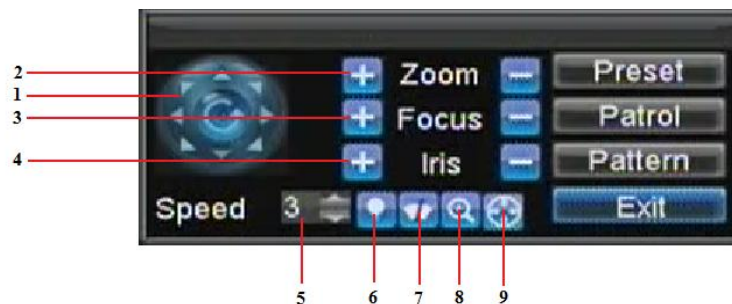

Figure 3. PTZ Control Interface
Before setting presets, patrols and patterns, it's important to understand some of the features of the PTZ control panel, shown in Figure 3.
1. Enter the PTZ Control interface, shown in Figure 3 by clicking PTZ in the mouse menu or the PTZ button on the front panel.